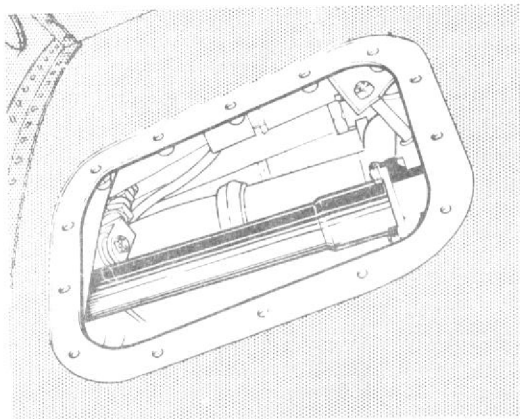

**Fig. 9 Engine access door**
**Engine access door (fig. 9)**
- (4) Disconnect the fuel pressure switch pipe from the pressure switch mounted on the bottom aft face of frame 34. Disconnect the other end of this pipe from the fuel delivery pipe and remove complete with banjo coupling and bolt. Disconnect and remove the oil cooler drain pipe and the combined overboard fuel drain pipe. Remove the three bolts securing the zone 1 ventilation duct branch pipe flange to the engine and remove the duct. (Duct